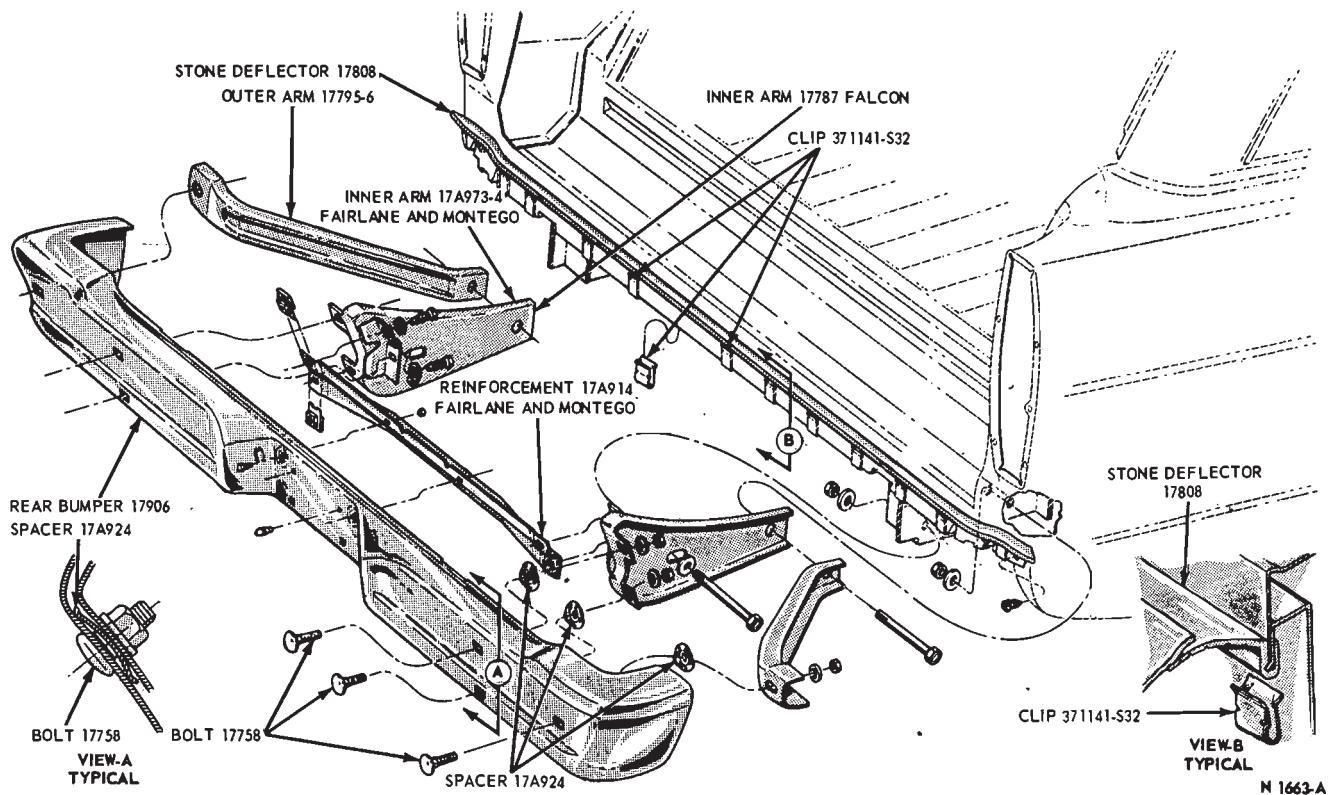

FIG. 13—Rear Bumper Installation—Models 66 and 71
3. Remove four nuts and bolts attaching the bumper arms to the frame rails and remove the bumper (Fig. 13).